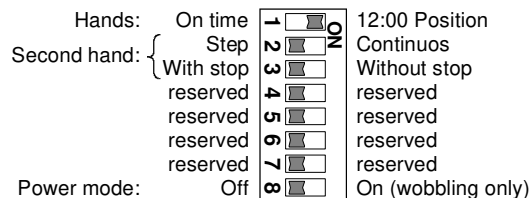

Fig. 5
- Set DIP switch 1 to **ON** position (12:00 Position, Fig. 5)
- After checking the 12 o'clock position, reset DIP switch 1 to OFF position (Fig. 5).